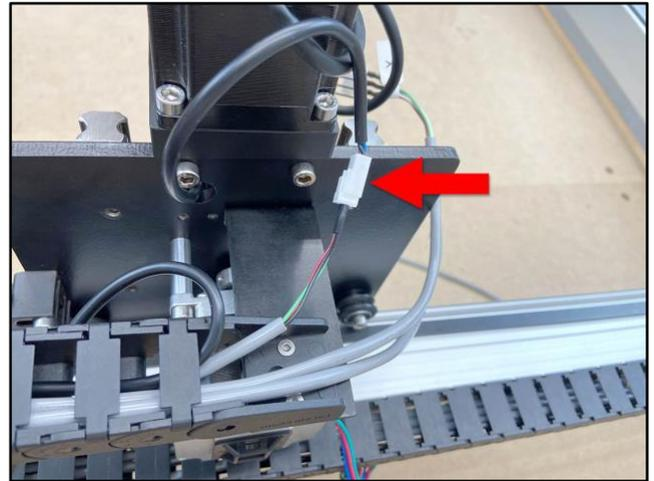

Figure 30
1. Connect the Z-Axis proximity switch to the gray extension cable. See **Fig. 30**.